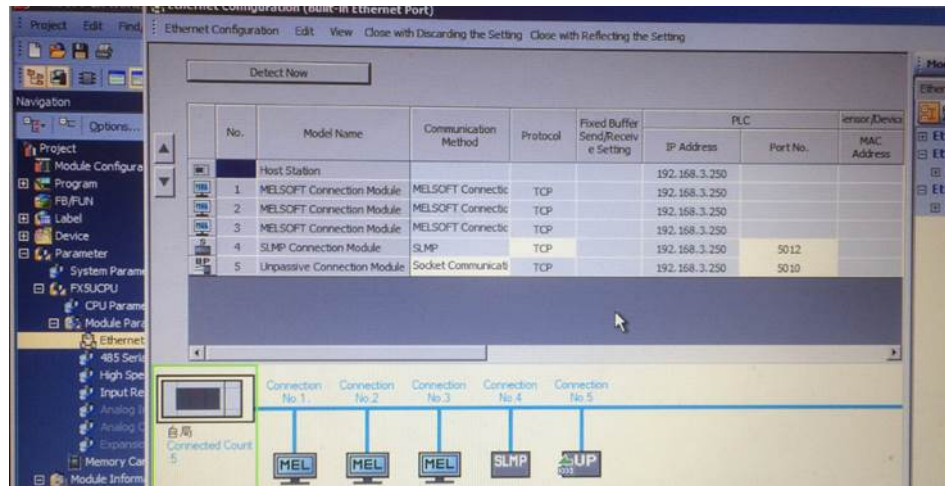

Figure 4.
1. Open the PLC's Ethernet Configuration window, as shown in Figure 4.